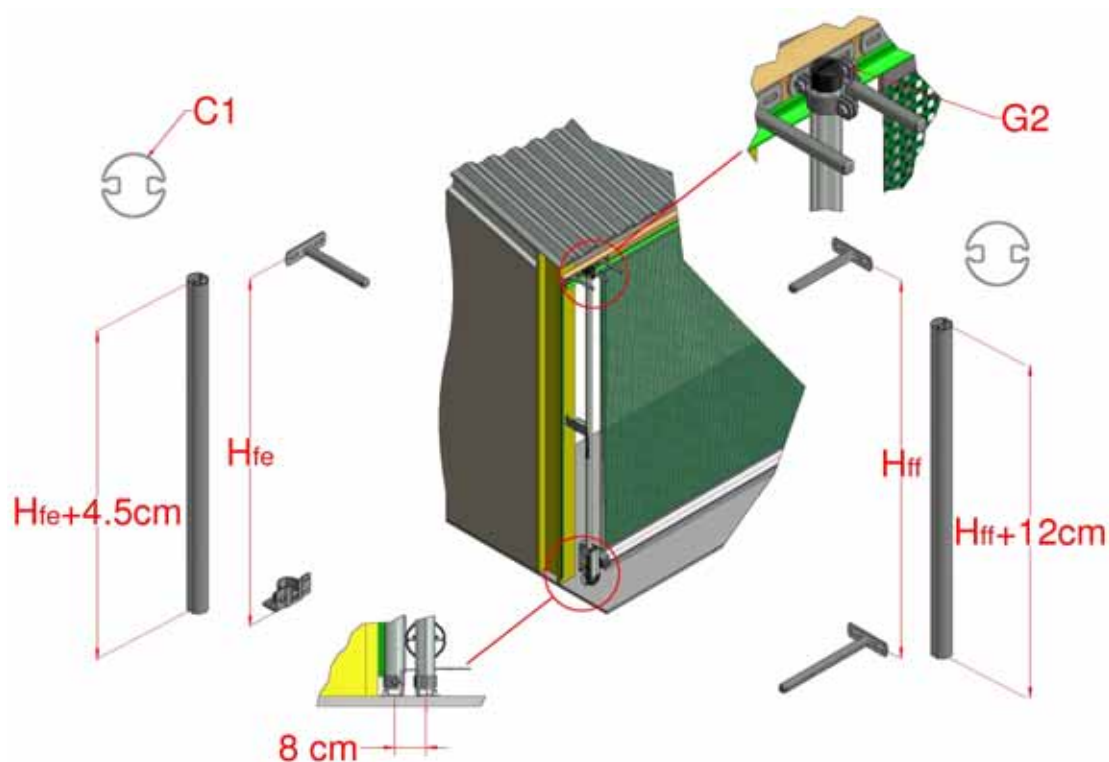

Figure 14, Torque Tube Installation
4.1 Cut the Torque Tubes (C1) to length and debur the ends as shown in Figure 14.
- a) For Face-End installation, slide the lower End Support (D1) onto the bottom of the Torque Tube (double flute with no protection insert). Attach the top of the tube to the middle of the three Face Brackets with the Crossover Clamp (G2) so that the tube is located on the outside of the Face Bracket, Figure 14. Pre-drill the holes into the floor for fixing so that the Torque Tube is centred 8cm from the centre of the inner Control Tube.